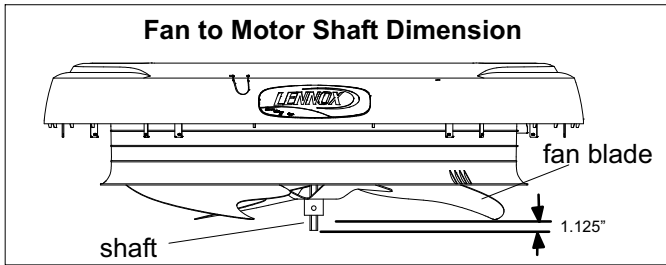

FIGURE 16
- 4 When replacing outdoor fan assembly make note of fan location. See figure 16.